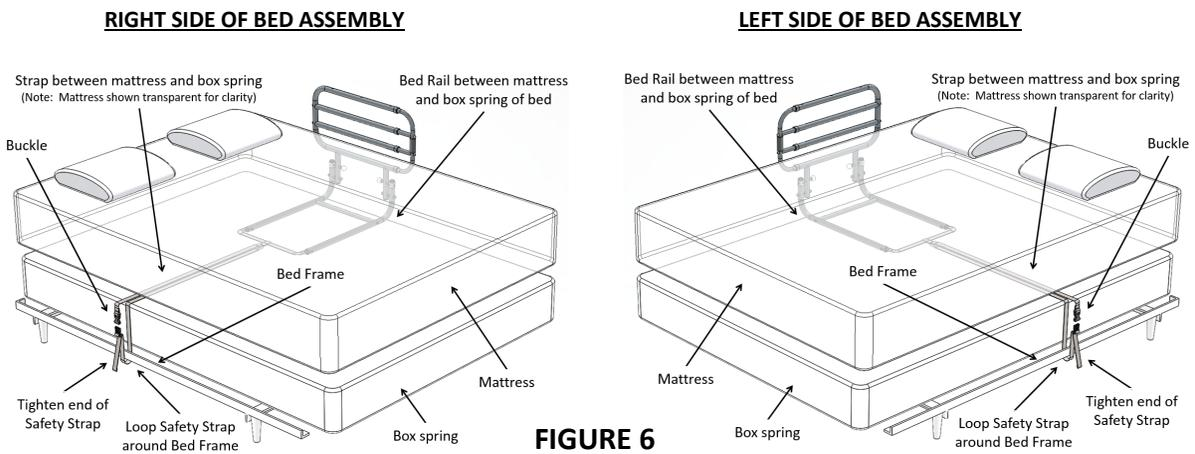
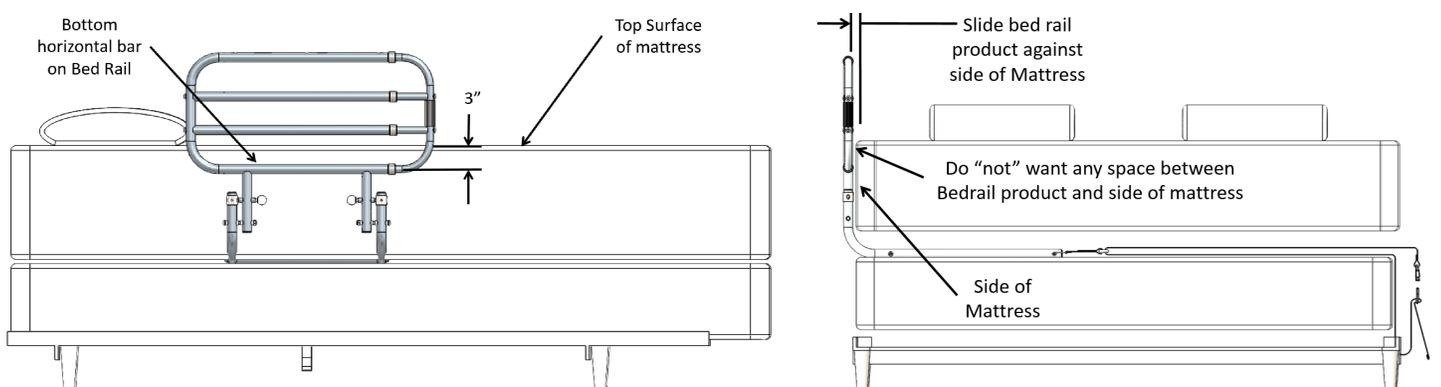

FIGURE 6
FIGURE 8
6. **IMPORTANT!!!** Secure the SAFETY STRAP to the bed frame, as shown in Figure 6. Unbuckle strap and loop strap around bed frame and re-buckle. Tighten strap to secure Handle Assembly against the side of the mattress. **DO NOT INSTALL PRODUCT WITHOUT SECURING THE SAFETY STRAP TO THE BED FRAME AS SHOWN IN FIGURE 6.** IF YOU HAVE ANY QUESTIONS CALL STANDER AT (800) 506-9901 or (435) 755-0453.
8. **WARNING:** For safety purposes, it is important that both conditions shown below are followed. First, the bottom horizontal bar on the bed rail must be 3" below the top surface of mattress. Second, no space should exist between bed rail and side of mattress. Secure the SAFETY STRAP to the bed frame, as shown in Figure 6 above. Unbuckle strap and loop strap around bed frame and re-buckle. Tighten strap to secure Handle Assembly against the side of the mattress as seen in Figure 8.